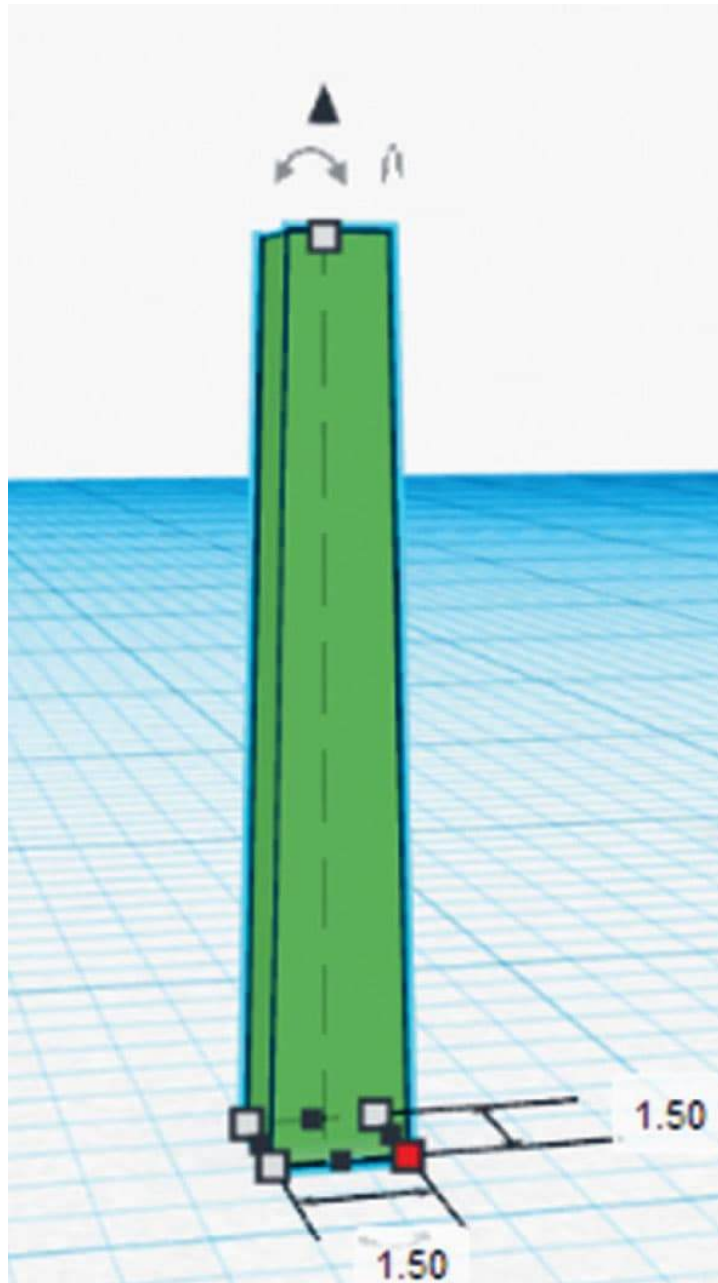

FIG. 6: Create the key using a trapezoid.
5. To create the key, simply create a trapezoid using the **Trapezoid** tool. The wider end should be $1.5 \text{ mm} \times 1.5 \text{ mm}$ with a length of 10 mm (fig. 6).